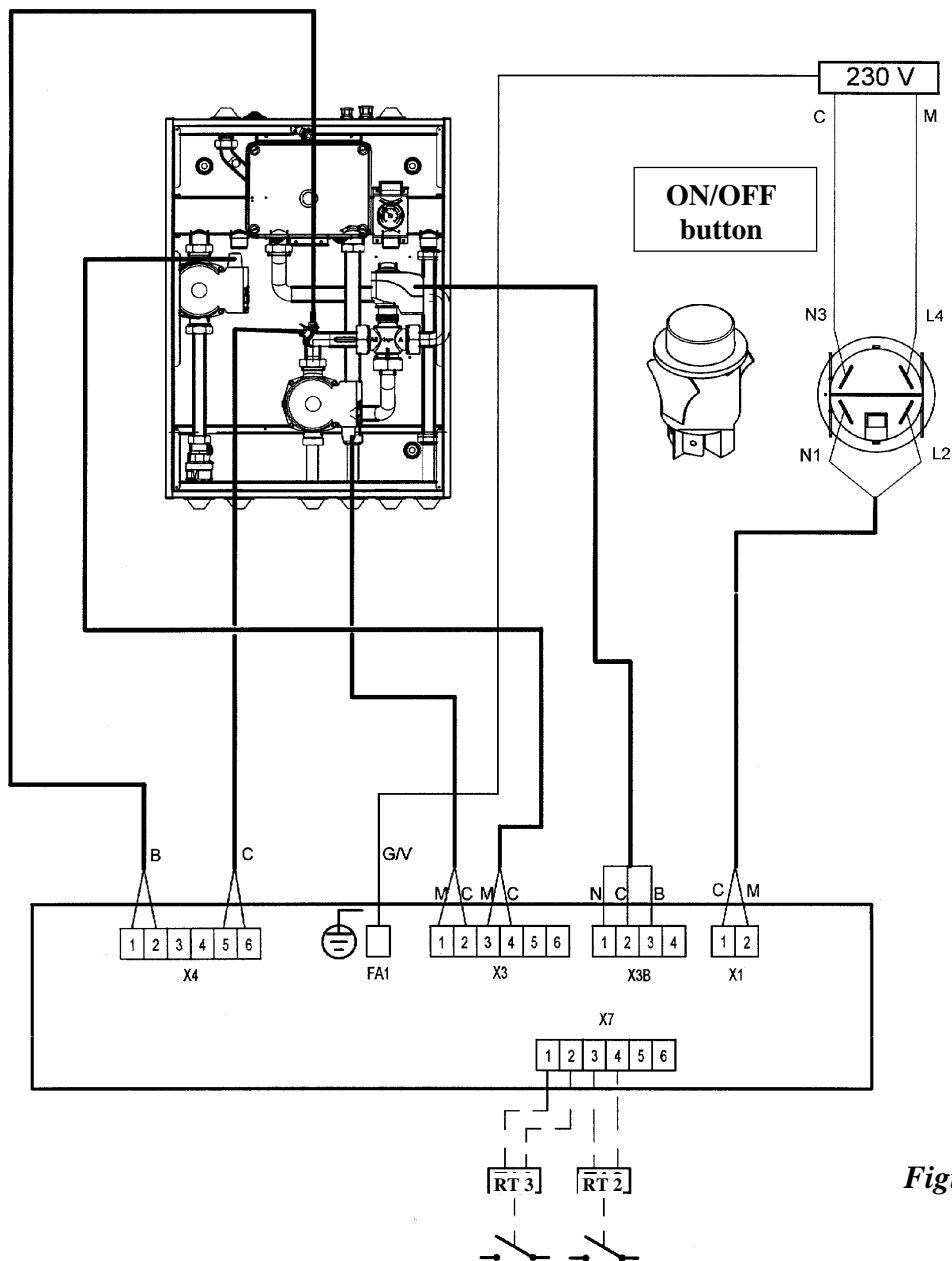

Figure 6
- The contact of the room temperature thermostat of the high temperature circuit must be connected to connector X7 pins 3-4 (RT2), of the electronic board controller (figure 6).
- The contact of the room temperature thermostat of the high temperature circuit must be connected to connector X7 pins 3-4 (RT2) of the electronic board controller (figure 6).